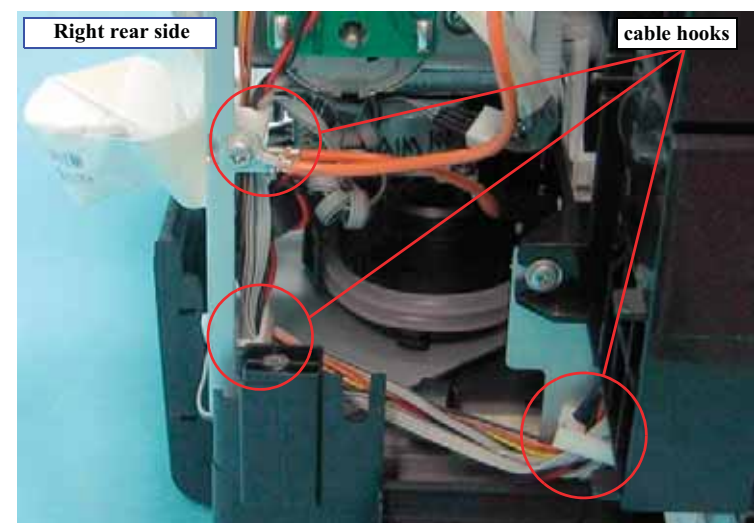

Figure 4-131. Releasing the PAPER, DETECTOR, ASSY. Cables
5. Release the cables of the PAPER, DETECTOR, ASSY., from the three cable hooks. See Figure 4-131.